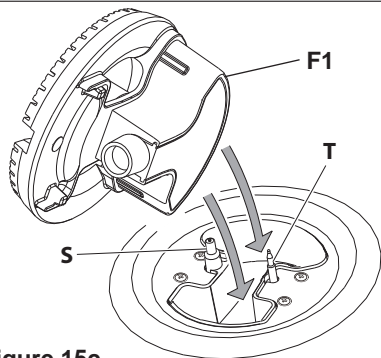

Figure 15c
It is very important to check that the burner flame spreader “F1” and “F2” and the caps “A”, “B” have been correctly positioned (see figs. 15c, 15d, 15e, 15f). Failure to do so can cause serious problems.
- Fit the flame spreader to the housing: the burner ribs must be fitted in their housing as shown by the arrows (see figs. 15c, 15d).